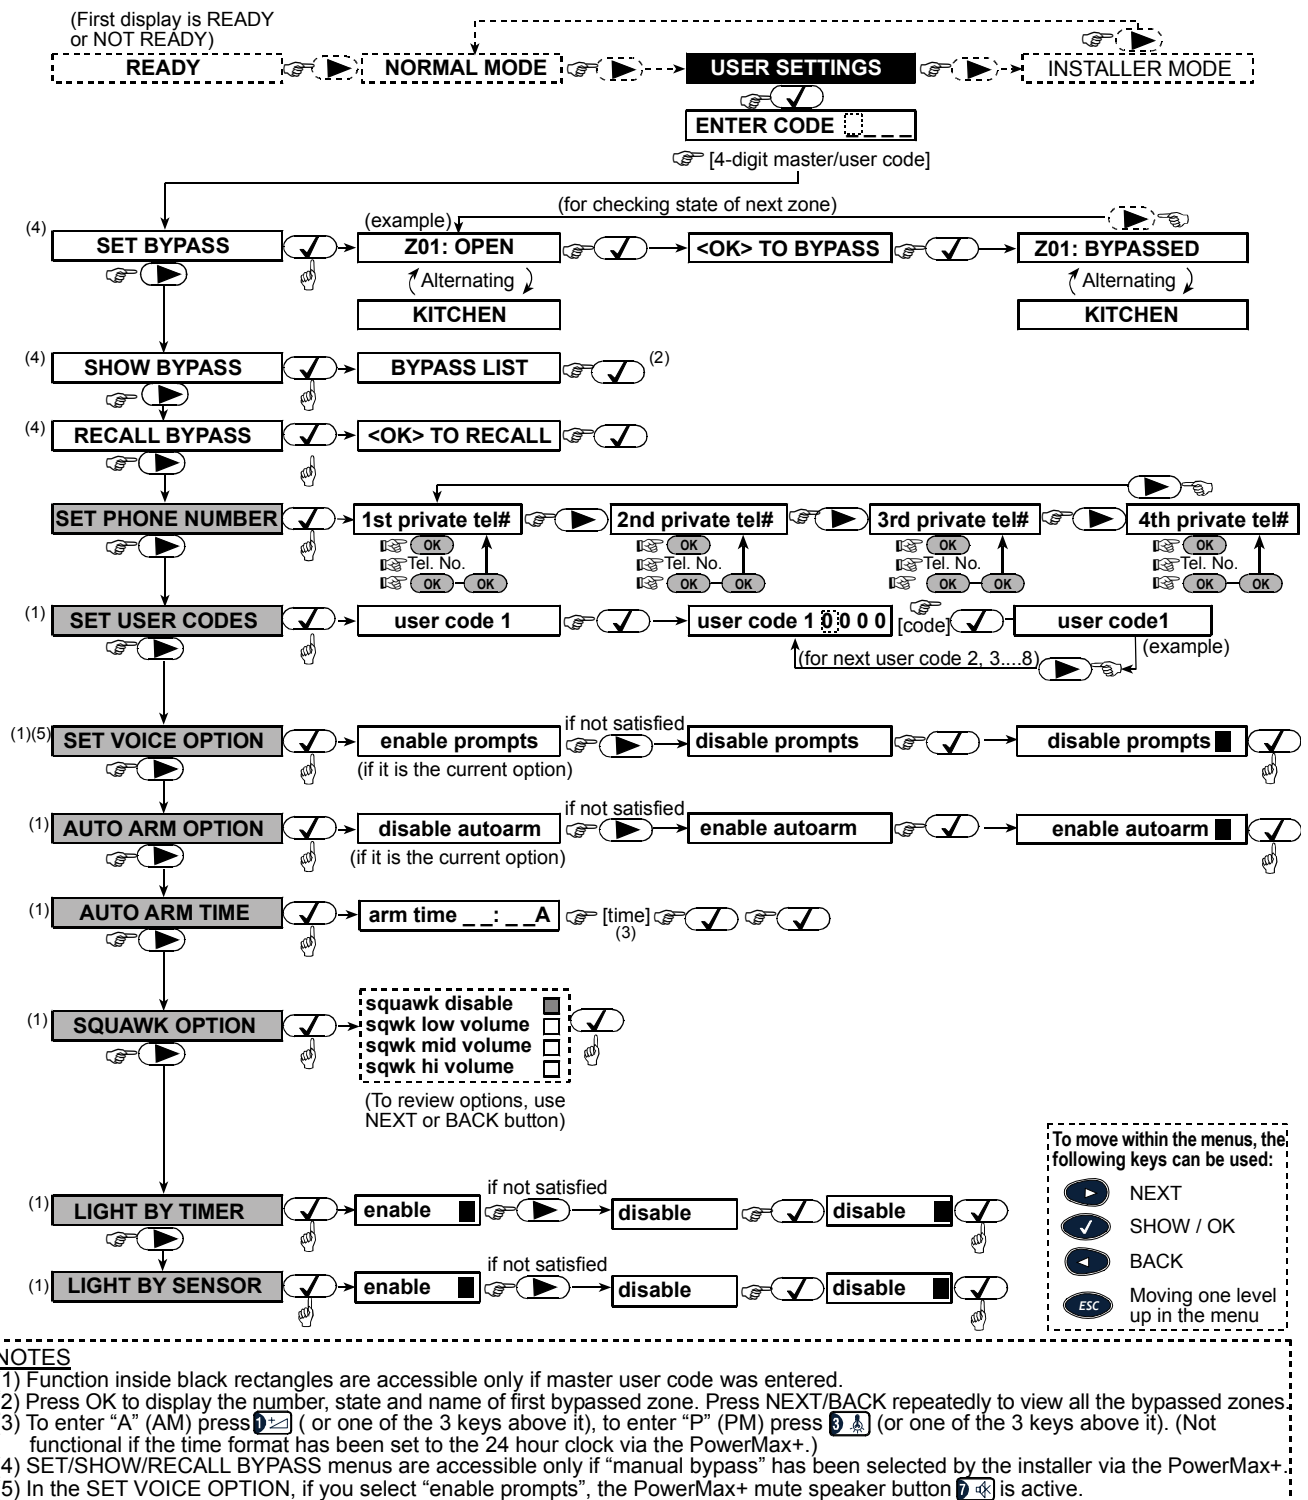

Figure 9: User Settings Flow Chart
- D. Having gained access to the user's menu, you may now select any other item on the User Settings menu as detailed in Figure 9.